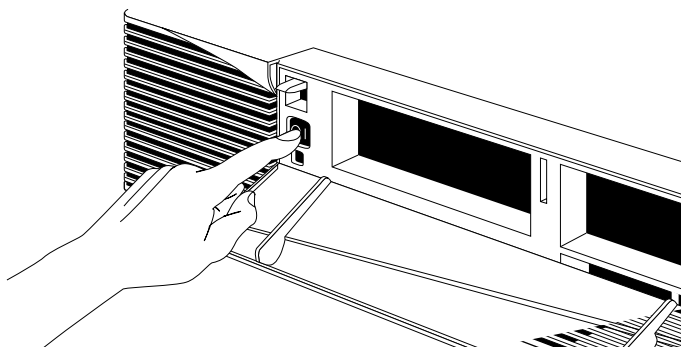

Figure 4-18 Turning On the Indigo² IMPACT Workstation
- Press the power switch to turn on the system, as shown in Figure 4-18.